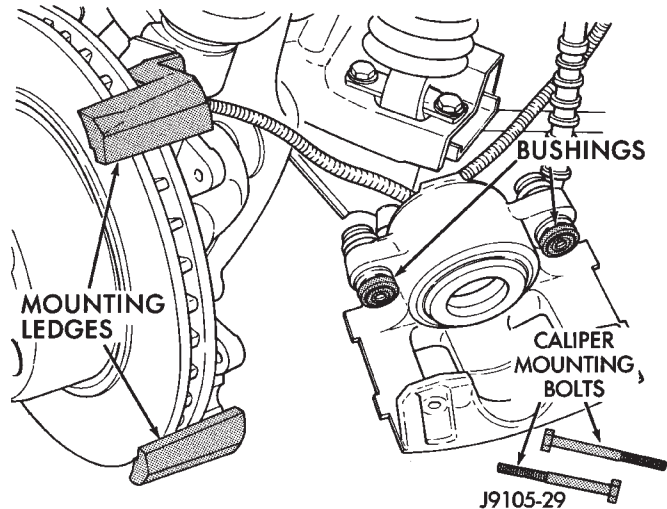

Fig. 10 Caliper Lubrication Points
(1) Clean brakeshoe mounting ledge slide surfaces of steering knuckle with wire brush. Then apply light coat of Mopar multi-mileage grease to slide surfaces (Fig. 10).
(2) Lubricate caliper mounting bolts and bushings (Fig. 10). Use GE 661 or Dow 111 silicone grease.